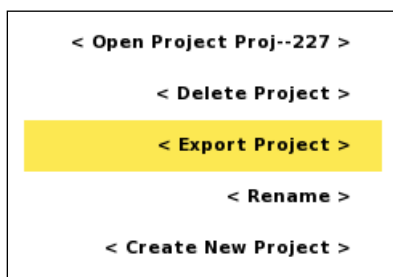

Figure 95 Project options menu
- Highlight <Export Project> (Figure 95)